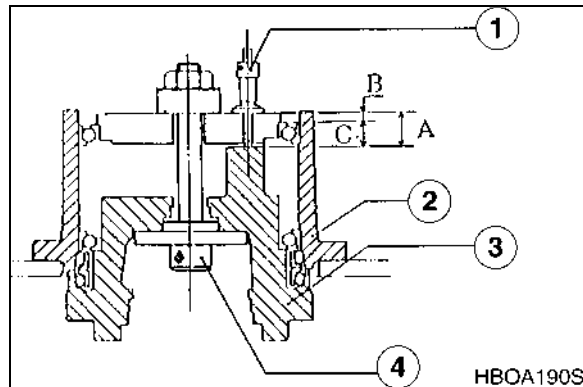

Figure 98
2. Through measuring hole of main bearing pre-load adjustment jig, measure the depth dimension "A" with a depth micrometer (1, Figure 98).